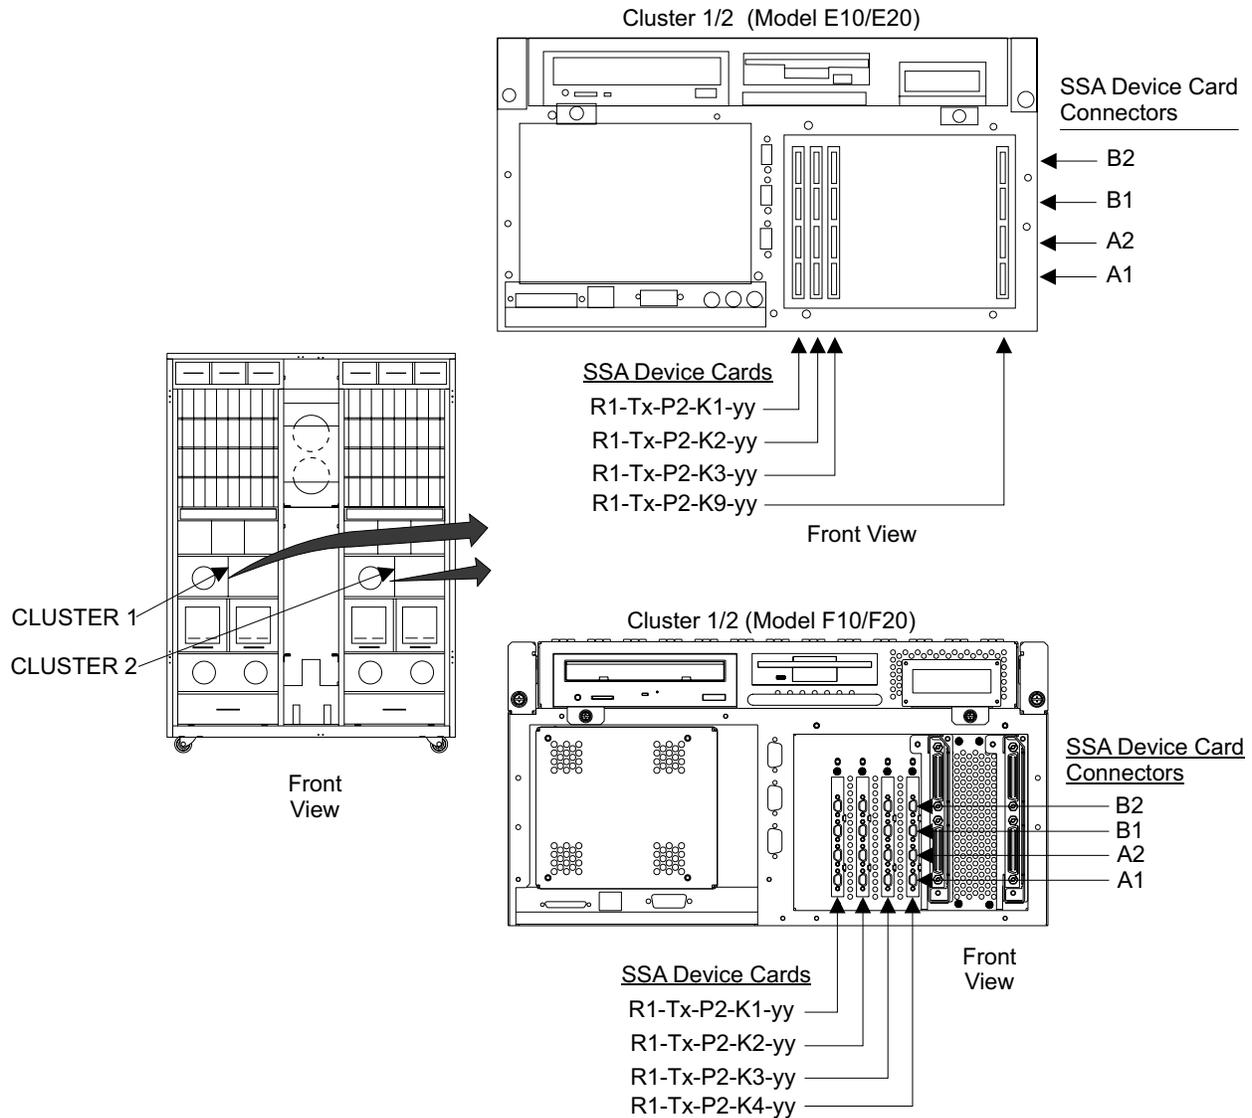

Figure 341. SSA Device Card Removal (S008801q)
- ___ 3. Open the front cover of the 2105 Model Exx/Fxx rack and locate the cluster bay with the cluster bay SSA device card you are installing the card into, see Figure 341 on page 349: